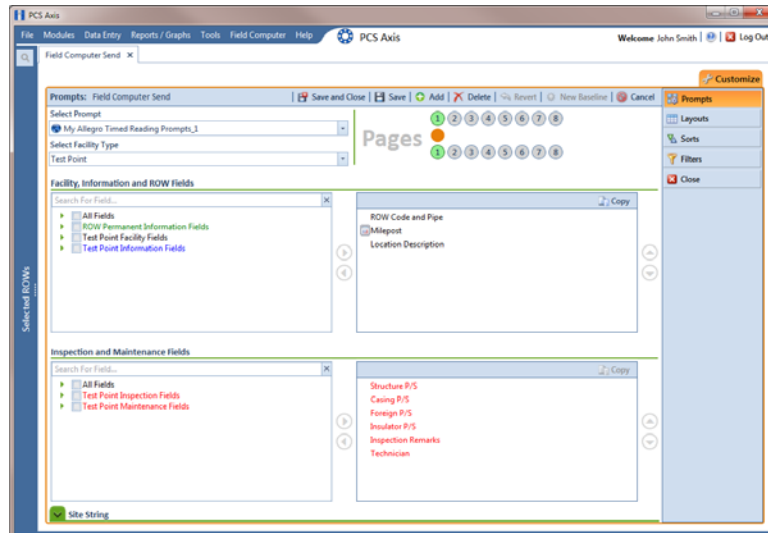

Figure 8-21. Prompts
- 9 Verify the name of the new theme displays in the **Select Prompt** field. If not, click the down arrow and select the theme in the selection list (Figure 8-21).
- b Double-click one or more fields in the selection list to move fields to the right pane. All fields listed in the right pane are included in the prompt theme (Figure 8-21).
- a Double-click **All Fields** in *Inspection and Maintenance Field* (Figure 8-21).
- a Click the  **Site String** tab to view a list of fields available for selection (Figure 8-21, page 369).